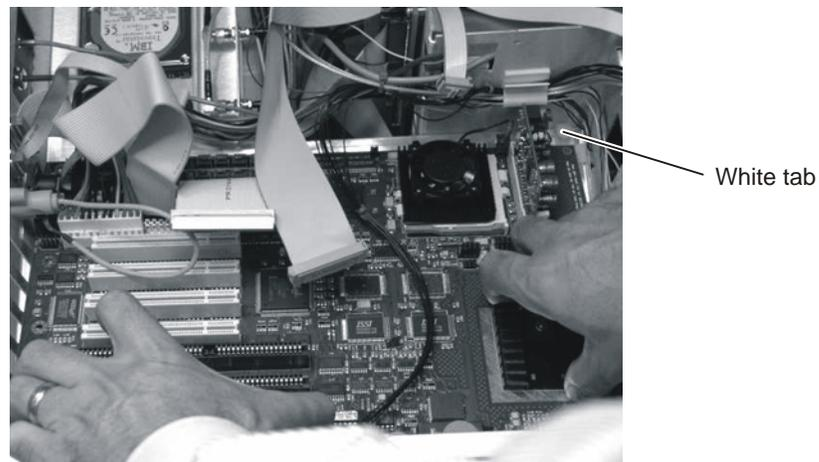
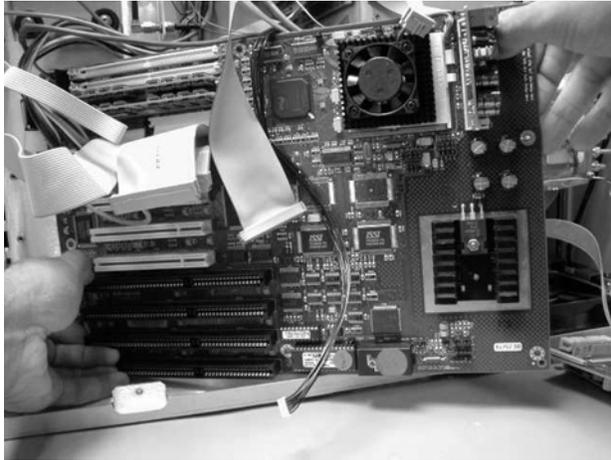

Figure 7-39. Slide the Motherboard Down to Clear the White Tab
Figure 7-40. Pull the Motherboard out the Right Side
- 7 Slide the bottom of the motherboard out to clear the white tab, as shown in Figure 7-39, then pull the motherboard out the right side, as shown in Figure 7-40.